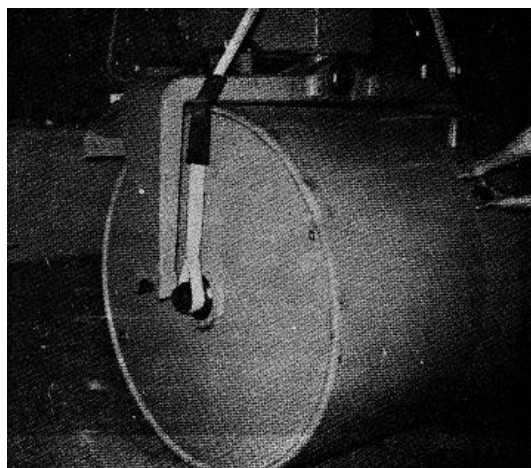

FIGURE 9-110.
a. Lift axle shaft assembly so it parallels the position of the steering yoke (see figure 9-110).